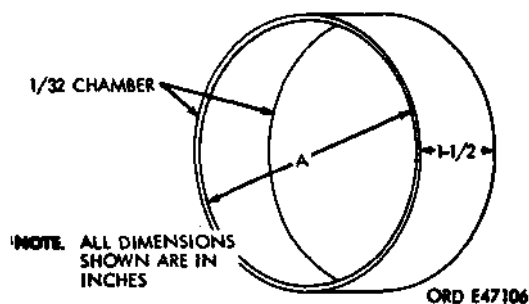
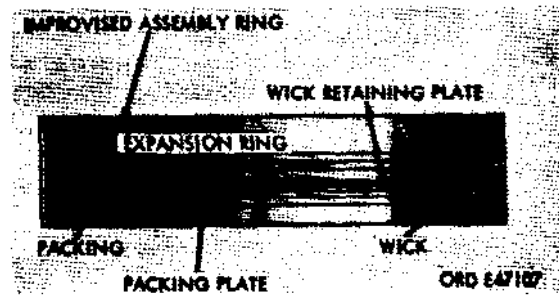

Figure 316. Improved assembly rings - detail drawings
Figure 317. Assembling air-hydraulic (Air-Pak) power cylinder piston packing and plates, using improvised assembly ring - sectional view
(b) Assemble the piston packing and related parts in the correct size improvised assembly ring (figure 316) as shown in figure 317. Install the new piston packing (P) in the ring with the lip facing up. Place the packing retaining plate (N) over the packing with the concave side toward the packing. Fit the new piston packing wick (M) inside the lip of the packing, and install the new expansion ring (L).